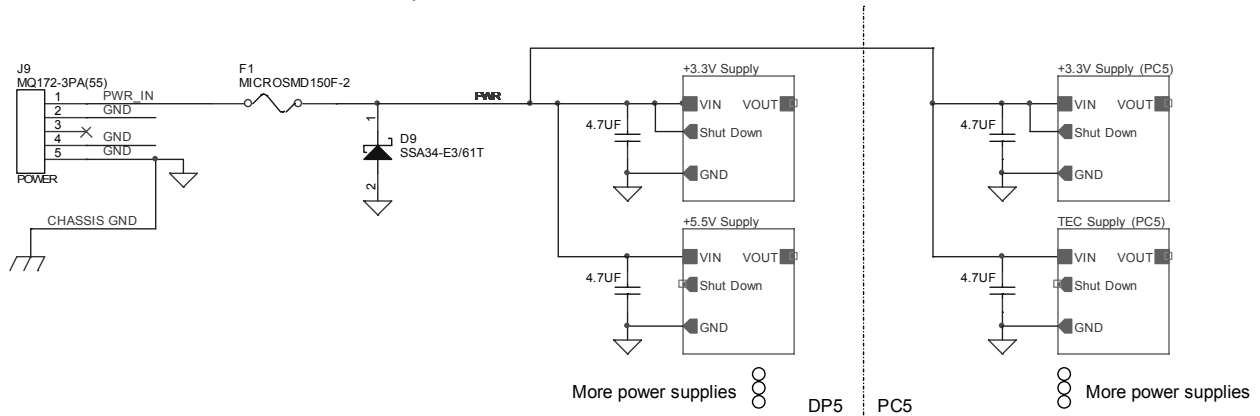
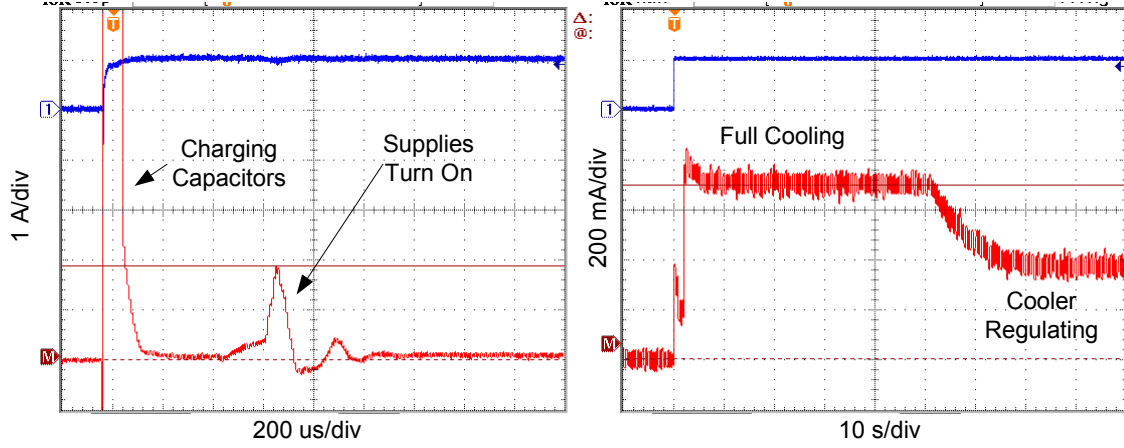

Figure 5-1. Simplified schematic of power supply architecture.
Figure 5-2. Turn-on transients in the X-123.
Figure 5-1 is a schematic illustrating the circuit at the power input. The PWR_IN line goes through a Polyfuse and a Schottky diode, then to different switching power supplies in parallel. Five of these are located on the DP5, five on the PC5. Each has a 4.7 μ F input capacitor. Some turn on as soon as power is applied, while others are under control of the microprocessor.
Figure 5-2 illustrates the transient currents seen as the X-123 turns on. There is a complicated structure, which can be understood from Figure 5-1.
- 5) In Figure 5-2, the set point was 230K, the ambient 295K, and a Si-PIN on a two stage cooler was used. After about 50 seconds, the temperature approached the set point and so began regulating. The current decreased to its steady state value, 400 mA.